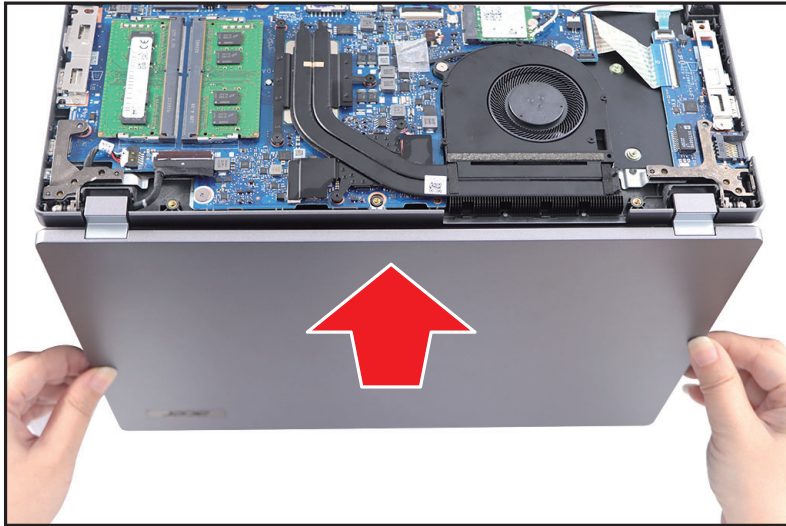

Figure 1-20. LCD Module Removal
3. Remove the LCD module away from the top assembly (Figure 1-20).